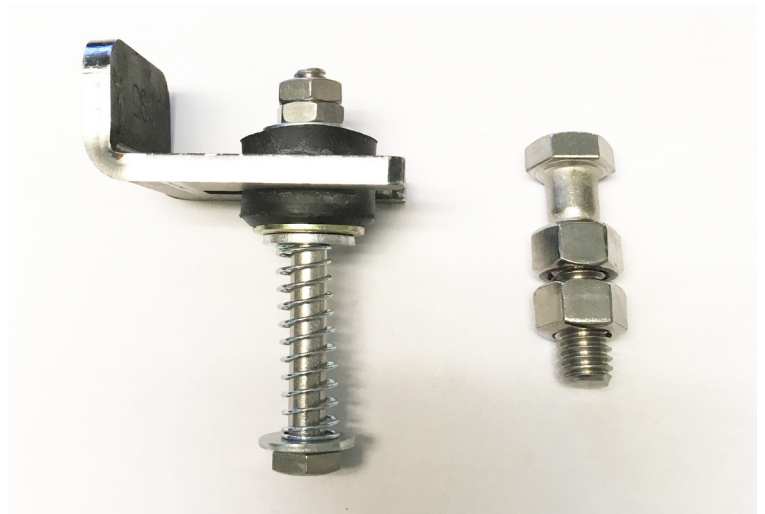

FIGURE 2
5. Install eyelet and fasten to spring magnet switch as shown in *Figure 2*.